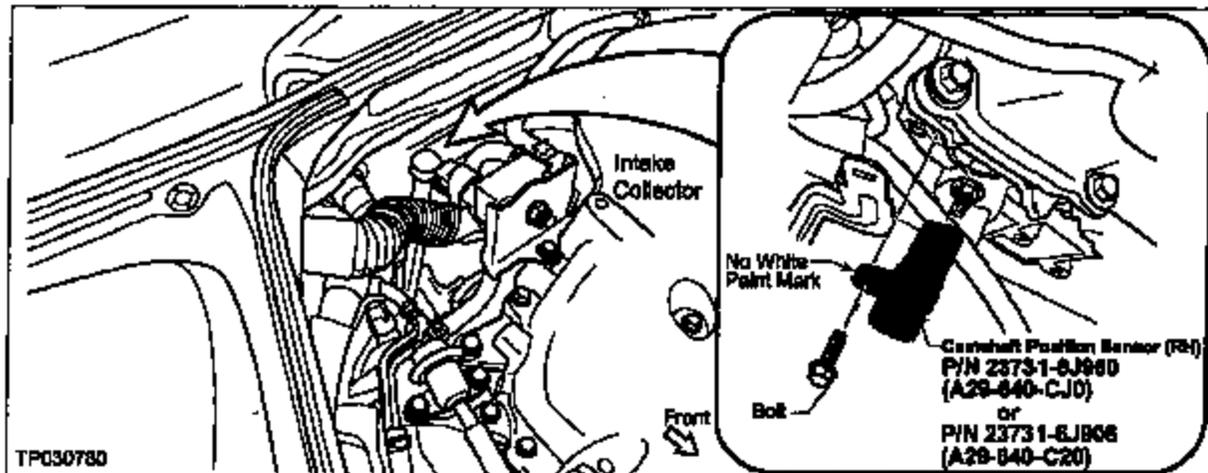

Figure 17
1. Locate the passenger side (RH) Camshaft Position Sensor (see Figure 17).